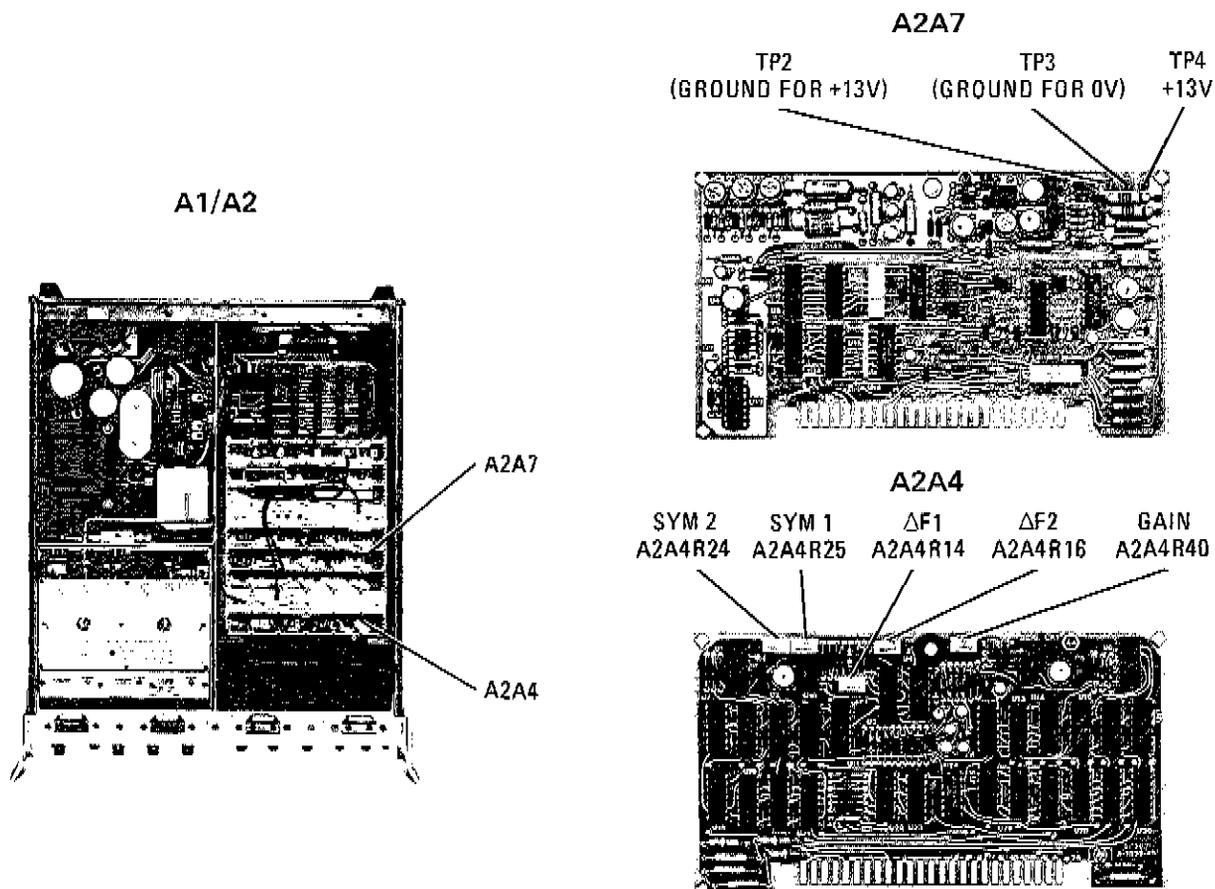

Figure A5-12. A2A4 Scaling Circuit and Sweep Control Test Points on A2A7
- c. On Frequency Control, set CW FREQUENCY to 1300 MHz and CW±ΔF to 000.0 MHz. Connect DVM to A2A4TP3 and adjust "GAIN" control A2A4R40 for -13.000 Vdc ±0.002 Vdc (Figure A5-12).
- e. On A2A7, connect jumper from A2A7TP2 to ground (Figure A5-12). Adjust "SYM 1 (START/STOP)" control A2A4R25 (Figure A5-12) for -12.000 Vdc ±0.002 Vdc.